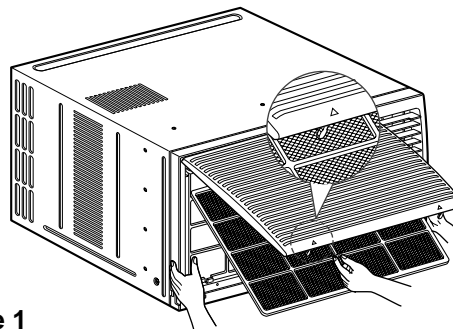

Figure 1
In humid weather, excess water may cause the BASE PAN to overflow. To drain the water, remove the DRAIN CAP and secure the DRAIN PIPE to the rear hole of the BASE PAN. Press the drain pipe into the hole by pushing down and away from the fins to avoid injury. (See Fig.1)
4. Remove the front grille. (See Fig. 1)